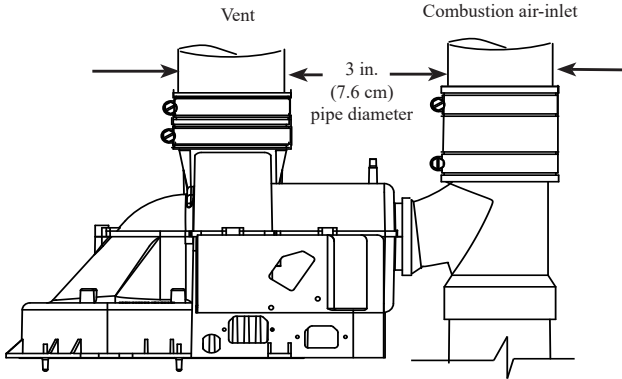

Figure 3
2. Connect the combustion air-inlet system piping to the combustion air-inlet piping tee using the 3 in. (7.6 cm) already installed rubber coupling and clamps (See Figure 3).
3. For vent and combustion air-inlet terminals, use the two (2), 3 in. (7.6 cm) diameter, Schedule 40, PVC, 90°, 1/4 standard bend, ULC-S636 approved elbows supplied with the water heater.